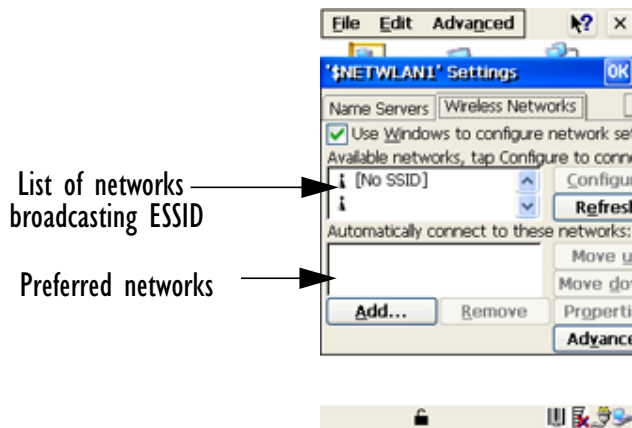

Figure 2.8 Radio Settings
The **Network name** field can contain a maximum of 32 characters. The name assigned here is listed in the *preferred* network list labelled 'Automatically connect to these networks:' (see Figure 2.8 on page 20).
9. Once the **NETWLAN Settings** dialogue box (Figure 2.8 on page 20) is displayed, you need to save all your radio configurations. Press <TAB> to highlight the **Wireless Networks** tab, and press <ENTER> to save the configuration.